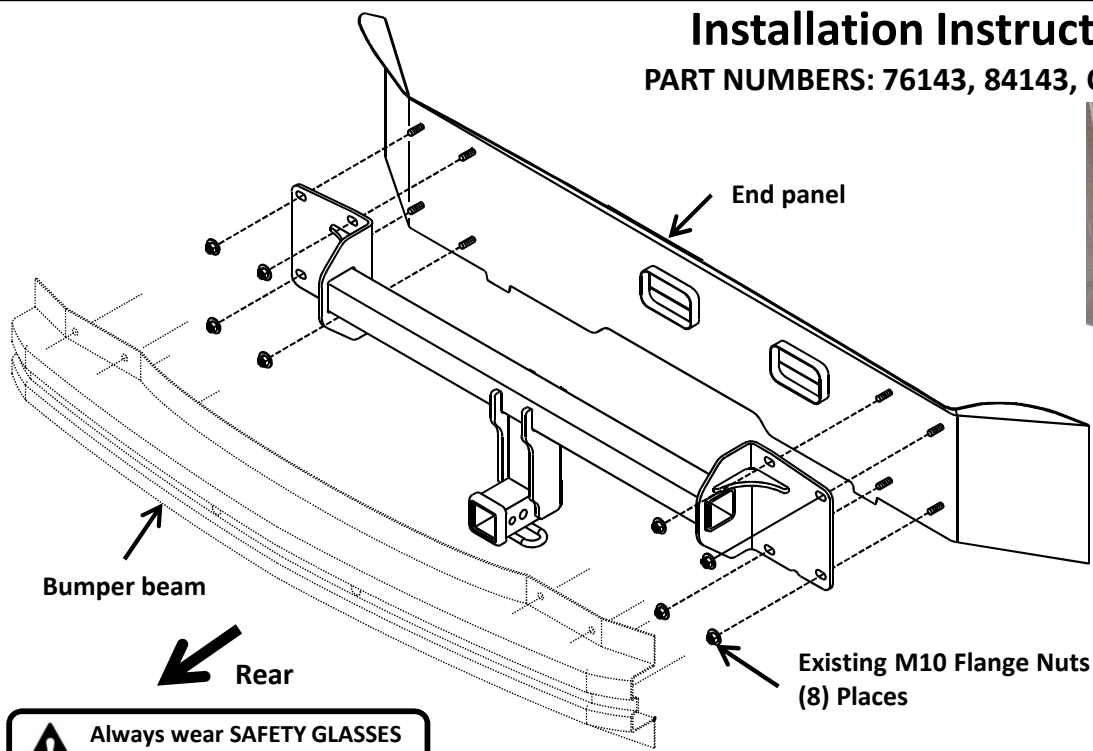

Figure 1
6. **Install hitch** - Raise hitch into position aligning holes in hitch with studs on end panel. Loosely reinstall the existing (8) hex flange nuts onto bumper studs, (4) per side. **See Figure 1.**